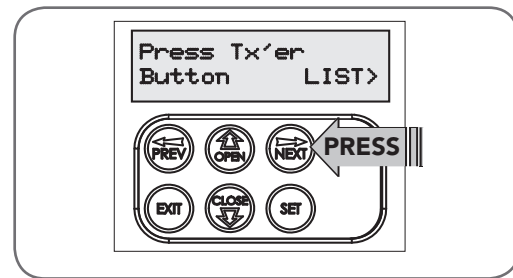

Fig G.1
1. Press NEXT to navigate to Menu 1 (**Fig. G.1**).
- a. Press NEXT to navigate to Menu 1 (**Fig. G.1**).